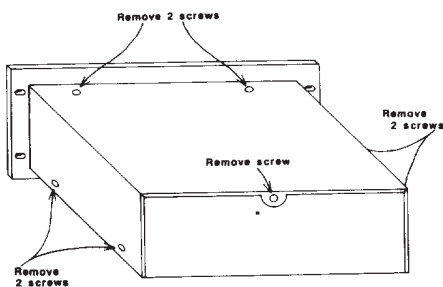

Figure 1. Top Cover Removal
1. Remove the seven screws securing the top cover. There are two screws on each side, two screws on the top near the rear edge of the rear panel. Refer to Figure 1 for details.